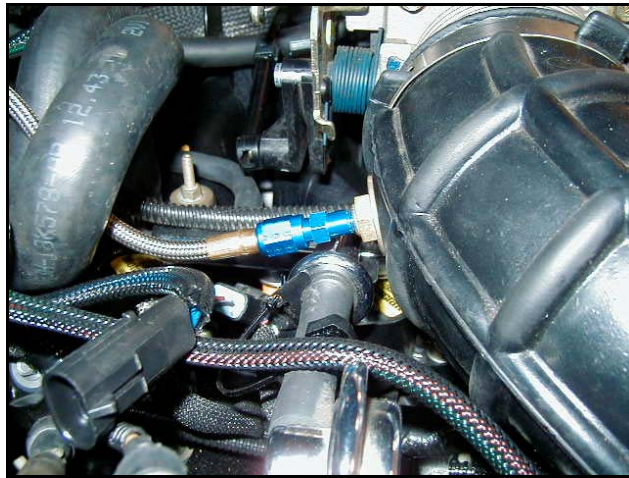

Figure 4
1. Figure 4 shows the recommended placement of the nitrous nozzle.